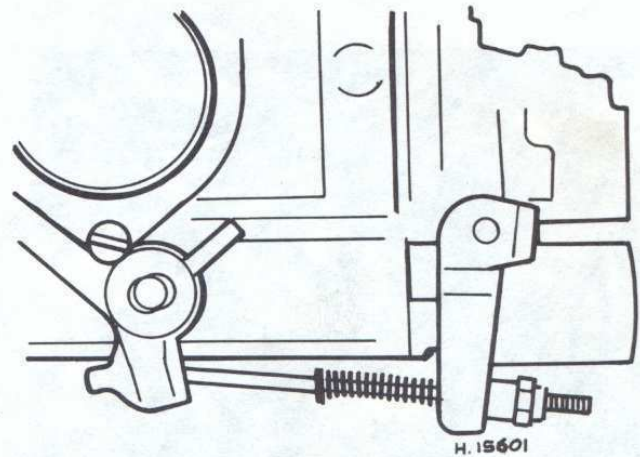

Fig. 3.19 Early accelerator pump pushrod on automatic transmission models (Sec 12)
- 5 On automatic transmission models fitted with the throttle lever shown in Fig. 3.19, screw in the adjusting nut by 1 to 1½ turns.